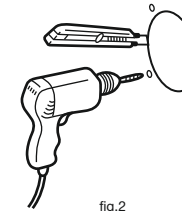

fig.2
4. Cut out the marked hole and drill the locations for the mounting bolts. (fig. 2)